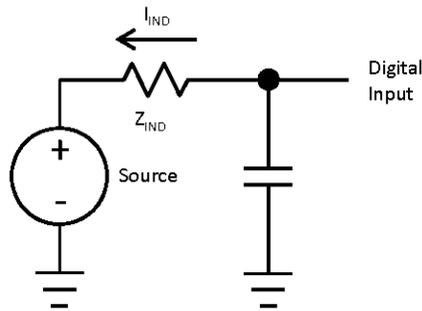

Figure 2. 5 V Tolerant Input I_{IND} Parameter
5. Examples calculated using V_{IL} relation, V_{DD} , and max I_{IND} : $Z_{IND}=V_{IL}/I_{IND}$. This is the impedance needed to pull a high signal to a level below V_{IL} due to leakage when $V_{IL} < V_{IN} < V_{DD}$. These examples assume signal source low = 0 V. See Figure 2.